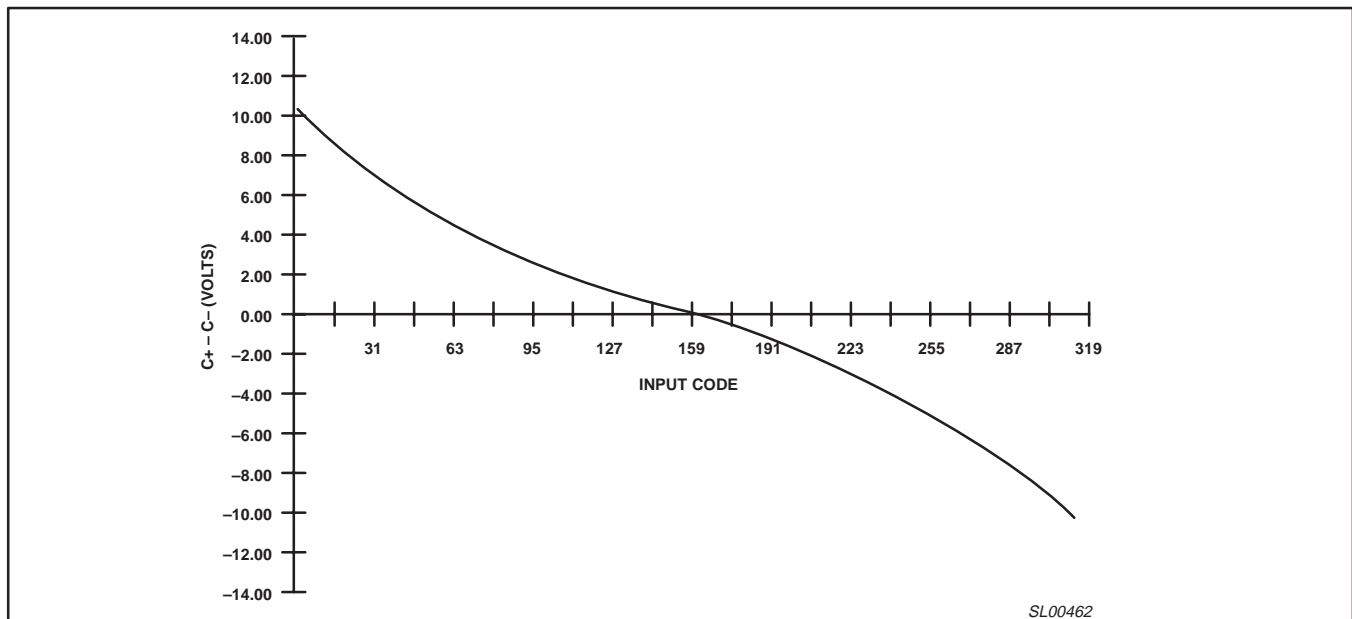
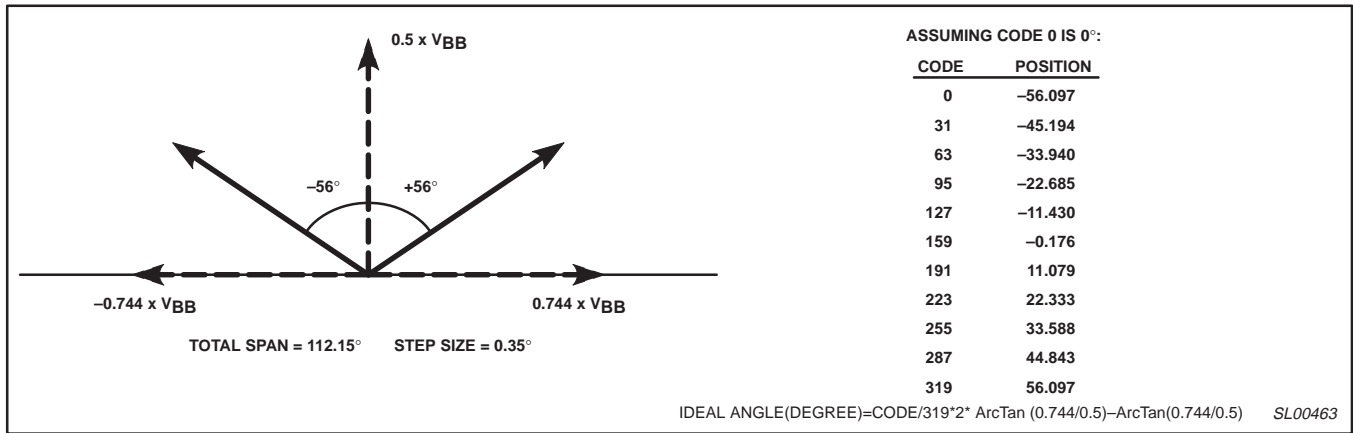

Figure 3. Typical output voltage vs input code ( $V_{BB} = 14 V$ )
Figure 4. Total span
- In reference to nominal values in Figure 4. (Based on 7+ bit DAC).
The primary function of the SA5777A IC is to generate the transfer function that maps an input code into the correct voltages for linearly controlling the coils of an air-core gauge display (Figure 3). The SA5777A has been implemented using the tangent drive algorithm. Therefore, one coil on each meter will be driven with an output approximating the tangent function, the other coils will be biased at 1/2  $V_{BB}$ . The internal DAC is designed to operate over a 7+ bit (56°) data range. An extended range can be achieved by changing the relationship between the bias coil and the driver coil. As the current through the bias coil is reduced, the full scale deflection is increased. Theoretically, this deflection could approach 180°, but practical limitations of accuracy, resolution, and torque restrict the full scale range to approximately 112° (Figure 4). This full scale range corresponds to a bias coil voltage of 0.5 x  $V_{BB}$  and a full scale tangent voltage of 0.744 x  $V_{BB}$ . The DAC has been tailored to